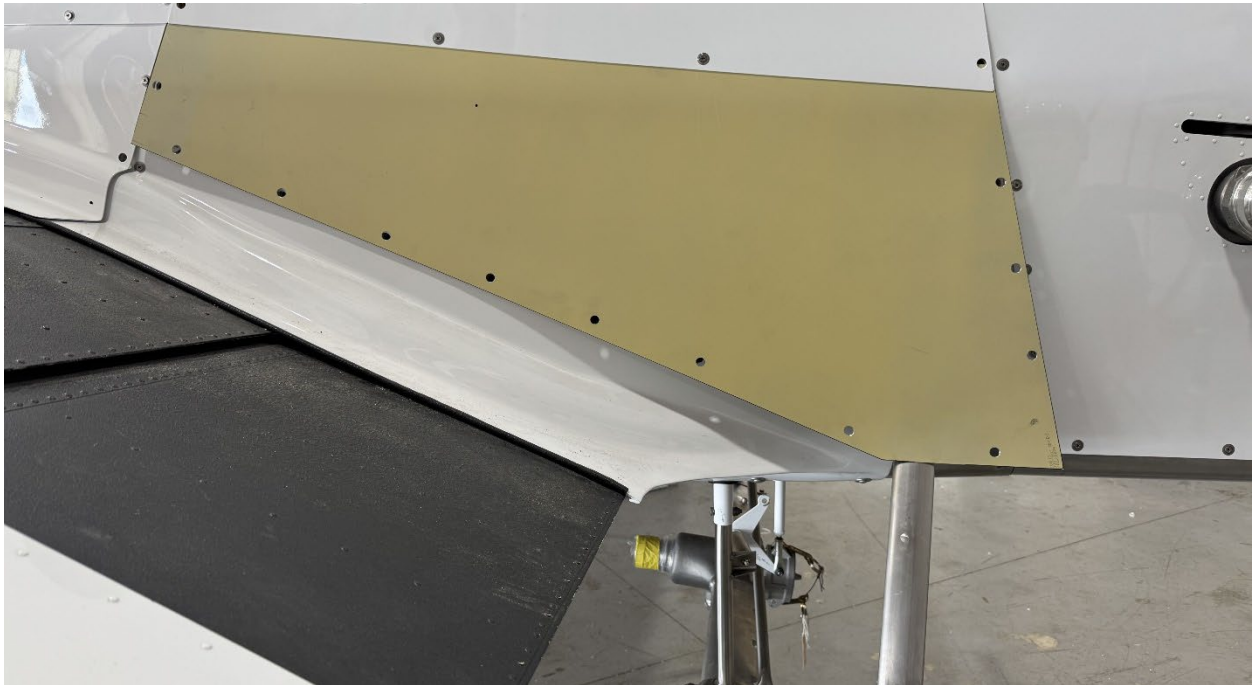

Figure 5
8. Temporarily install skins using Camlocs as required. (Reference Figure 5)